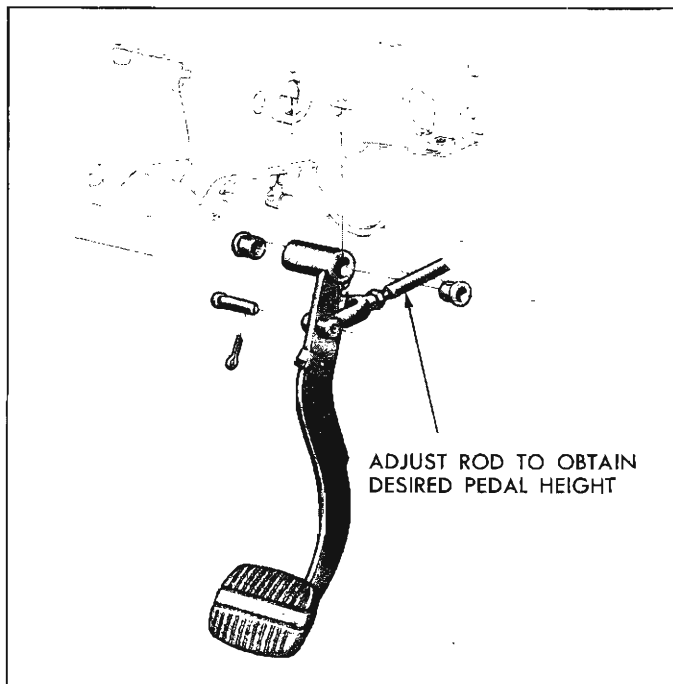

Fig. 29—Power Brake Push Rod to Brake Pedal Attachment
1. Disconnect clevis at brake pedal assembly (fig. 29).